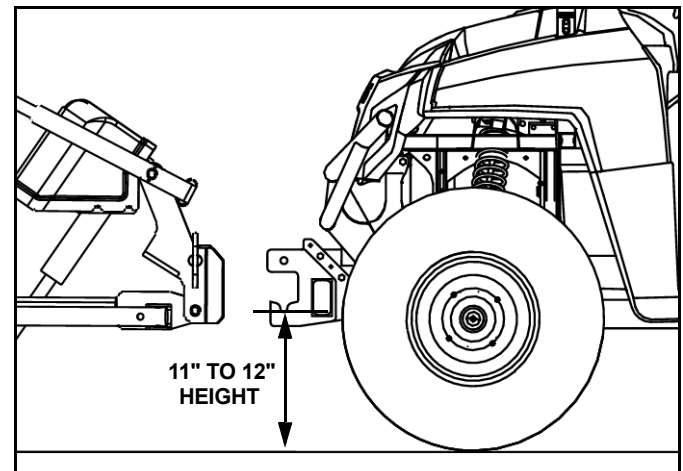

Figure 8
10. Align the UTV Mount (#1) with the front side holes in the Bottom Weldment (#3). Adjust the UTV Mount (#1) so that the center of the bottom slot is 11"-12" off of the ground (See Figure 8).